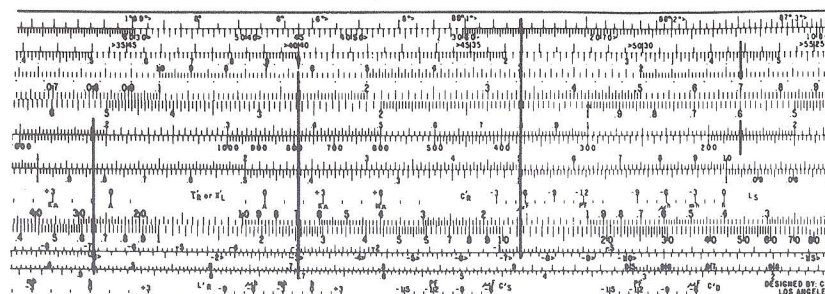

Figure 10g
Set +5 on X_c' to -10 on C' and read +5 on F' . This gives F_H as 38 Kc as indicated in Fig. 10g.
b. Assume that the behavior for the conditions in example (a) were desired at 80 Kc. It will only be necessary to move the hairline to 0.8 on F . On the α scale read -64.6° for the phase shift (red numerals) and a coupling loss of -7.4 db (red numerals). Find the frequency at which the loss is -1 db? Move the hairline to -1 on the db scale (red numerals) and read 19.2 Kc on F . These headings are also shown in Fig. 10g.